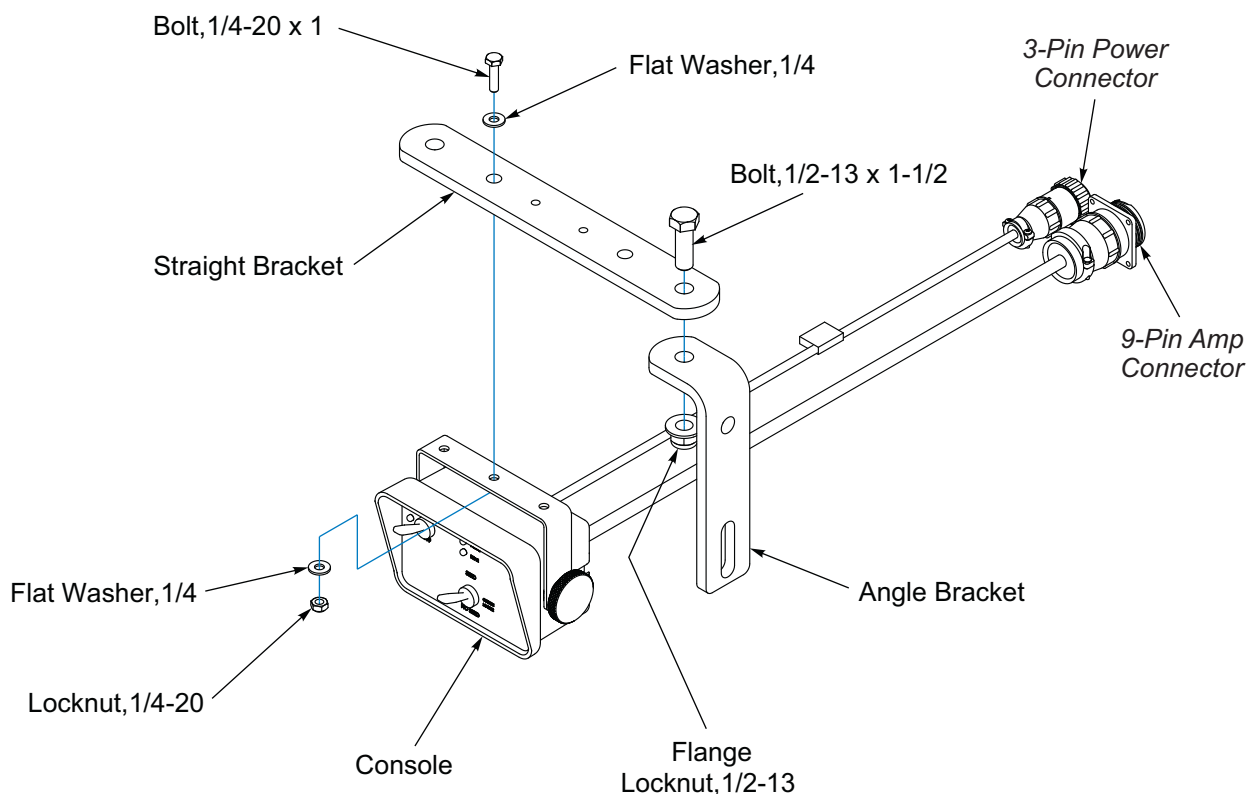

Figure 2-44: Console w/Clutch Control Tractor Installation - Optional
1. Mount Angle Bracket onto Tractor where convenient for the operator. **See Figure 2-44.**